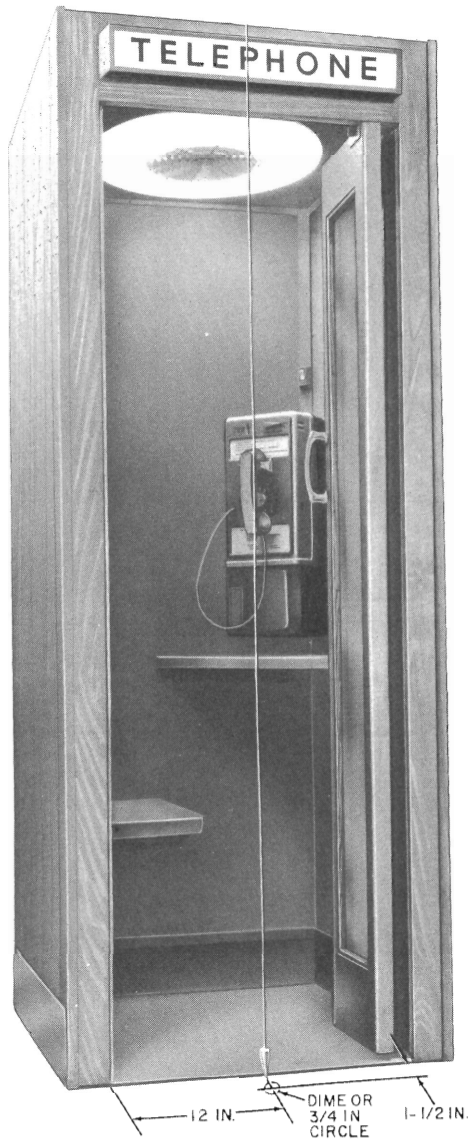

Fig. 2 — KS-19340 Booth With Plumb Line
- (1) Place a dime (or mark a 3/4 in. circle) as shown in Fig. 2.
- (2) Suspend a plumb line (obtain locally), as shown in Fig. 2, from a tack placed temporarily in center of top edge of booth.